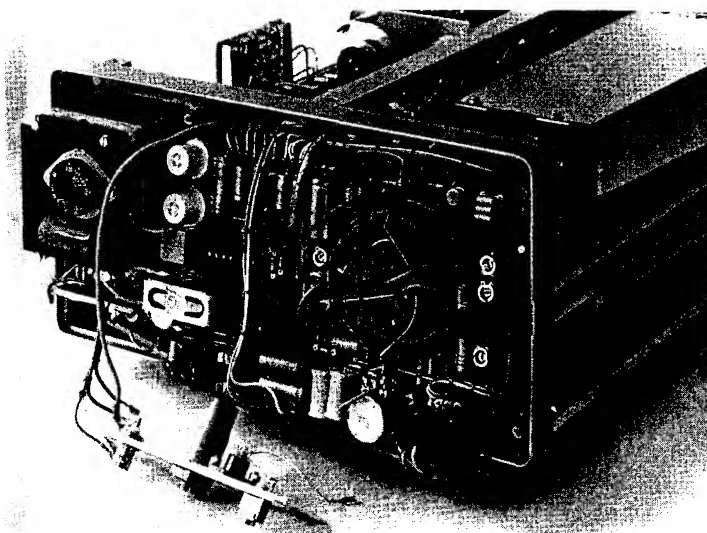

Fig. 3.25. Supply unit swiveled out
- Swivel the board out of the instrument (Fig. 3.25.).